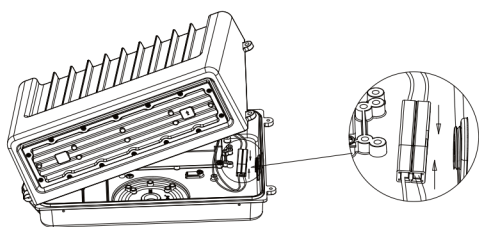

Fig. 1-5A
- Connect the quick connect terminal, then screw the fixture with bottom plate. (Fig. 1-5A&B)